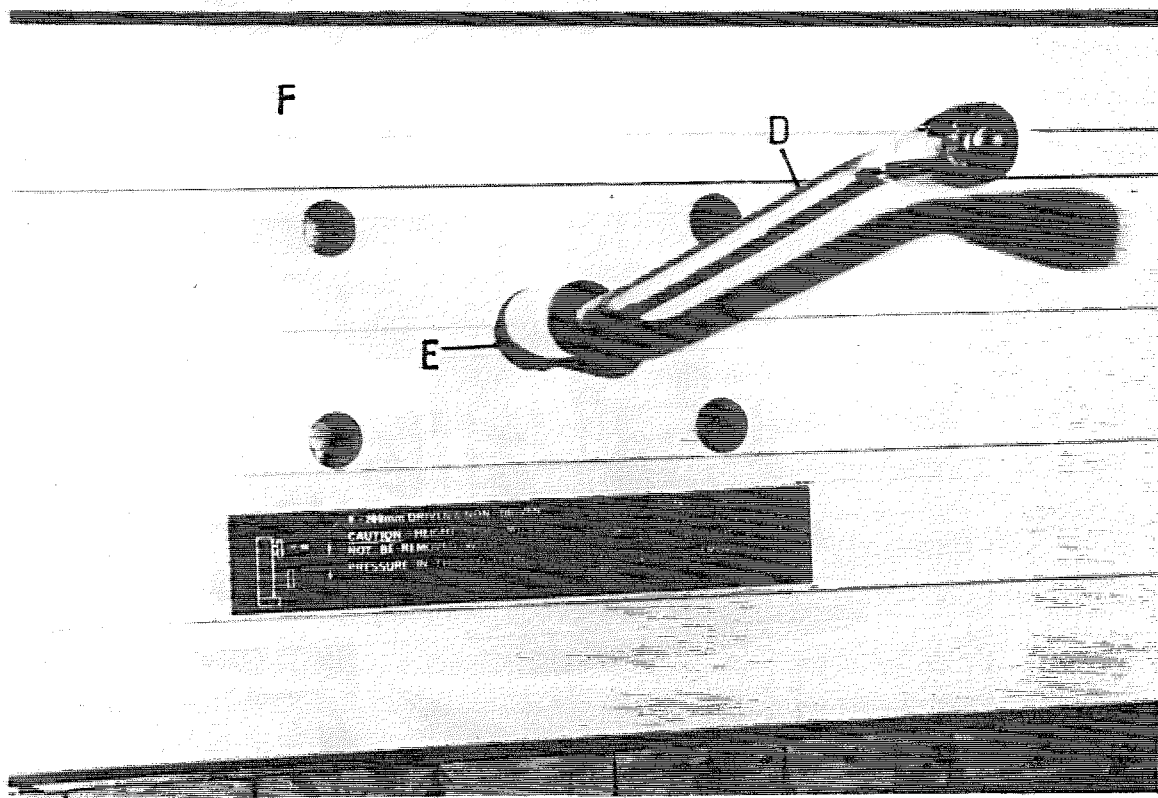

FIG. 31
- 2 Insert crank handle "D" FIG.31 (supplied with machine) into hole "E" in top pressure beam "F" and adjust to required position. Relock locking handle "C".